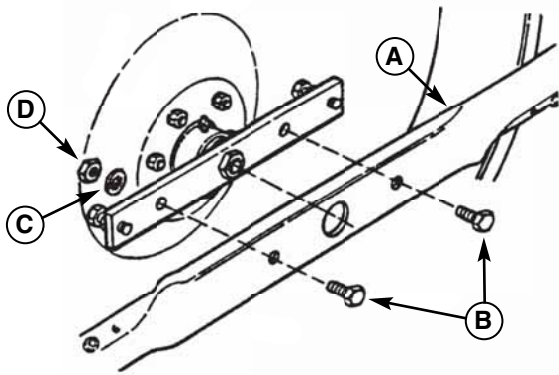

Figure 29. Blade Installation - 33" Deck
8. Reinstall the hardware as noted in Figures 29 through 31. Use a wooden block to prevent blade rotation while tightening the hardware to the following torque: